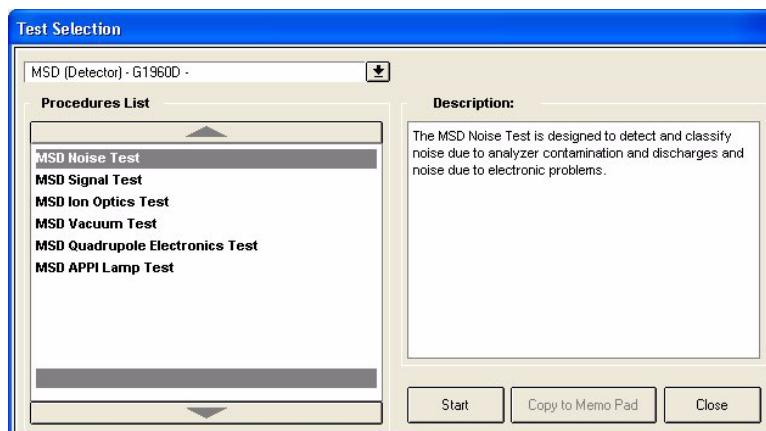

Figure 66 Diagnostic tests for the MS
- **Show Module Tests** – Display a list of diagnostic tests for that module, as shown in Figure 66 on page 125.
There are a number of preprogrammed diagnostic tests that you can access for each module in your system. You can display a complete list of tests for each module by clicking the module icon in the instrument panel and selecting **Show Module Tests**. Figure 66 shows the tests for the MS.